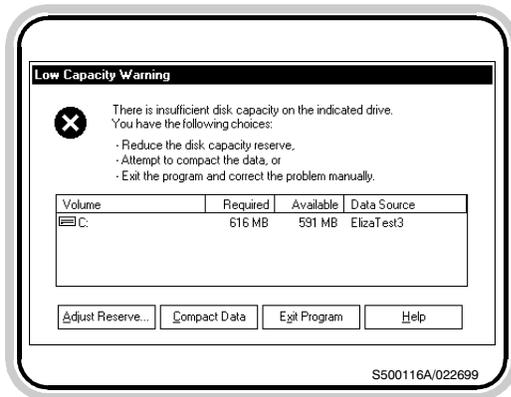

Figure 13.3- Low Capacity Warning dialog box
This area is used to set the amount of disk space (reserve capacity) to keep free. As tablets are tested and setups are saved, the amount of disk space used by the database increases. The reserve capacity sets the amount of disk space to set aside and not use for the database. A value of 100 megabytes (MB) should prove adequate in most instances. The disk capacity is checked once each hour, and if the disk space required for the database plus the amount of reserved space exceeds the available free space on the disk, the Low Capacity Warning dialog box will appear (figure 13.3),